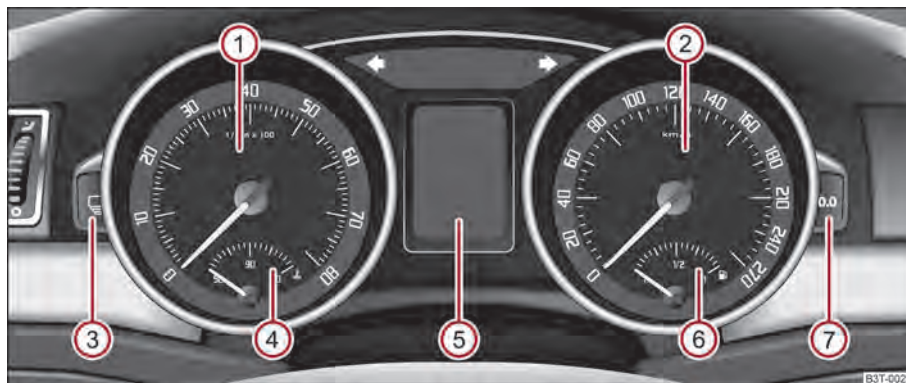

Fig. 2 Instrument cluster
The red zone of the rev counter scale ① ⇒ fig. 2 indicates the range in which the engine control unit begins to limit the engine speed. The engine control unit restricts the engine speed to a steady limit value.
The coolant temperature gauge ④ ⇒ fig. 2 operates only when the ignition is switched on.
The fuel gauge ⑥ ⇒ fig. 2 only operates when the ignition is switched on.